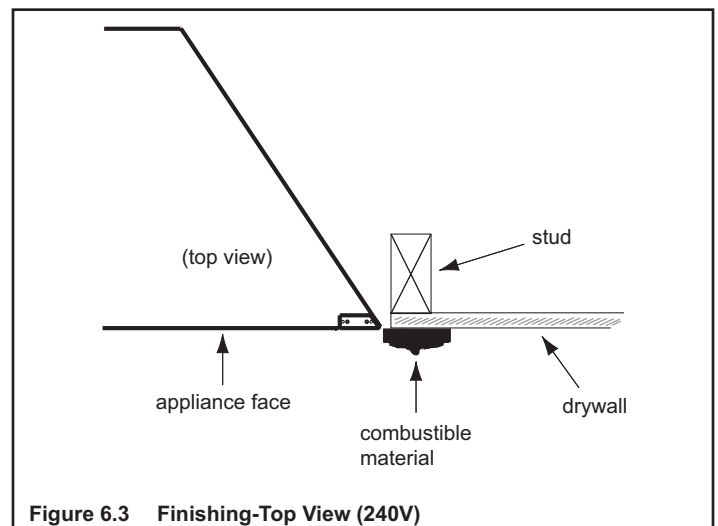

Figure 6.3 Finishing-Top View (240V)
- Combustible material **may not** cover the black outer surface on 240V heaters. See Figure 6.3